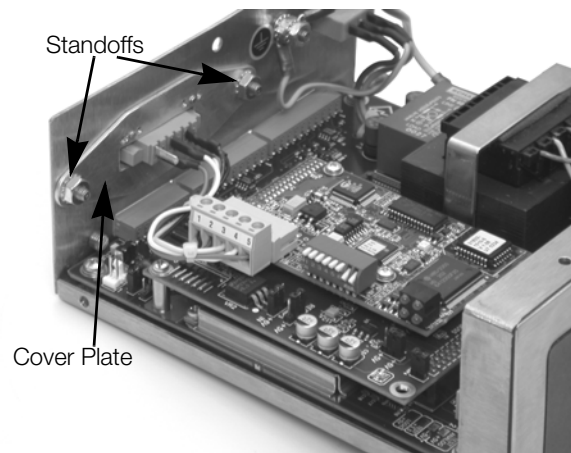

Figure 2-6. DeviceNet Cable Assembly
7. Re-use kep nuts to secure DeviceNet cover plate to standoffs located on inside of enclosure backplate (see Figure 2-6).